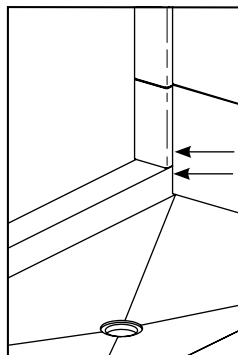

figure 28
3. Starting with the special bottom threshold piece, place the threshold into position making sure to align the threshold with the vertical line previously drawn on the cement board. Apply pressure to the trim piece to bond it to the cement board. The trim piece should be flush with the inside of the shower pan threshold (fig. 28). Make sure to align the channels in the thresholds with the channel in the shower pan.